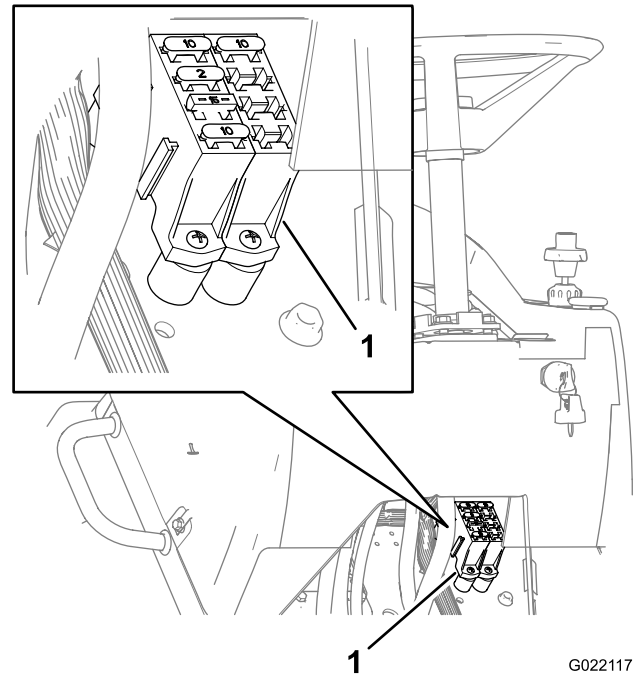

Figure 59
3. Replace the open (blown) fuse in the fuse block with a new fuse that has an equivalent amperage value (Figure 59).